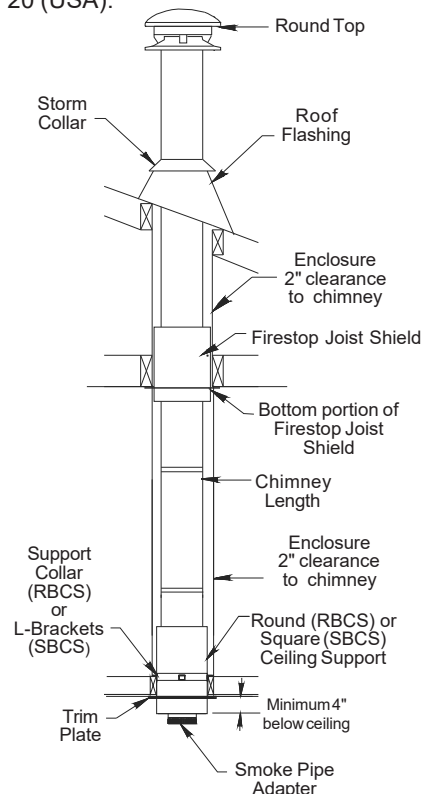

Figure 20 - USA - Enclosed Living and Attic Space
**NOTE:** In the USA - When the chimney is enclosed in the attic area from a living space a Firestop Joist Shield (JS) must be installed into the attic (see Figure 20).